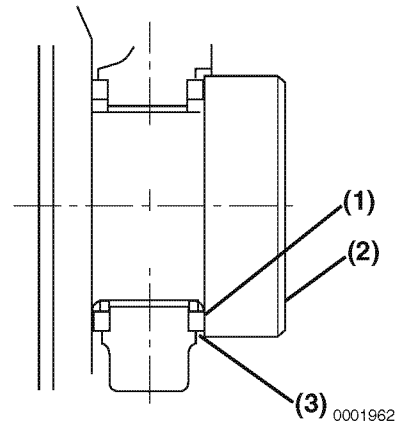

Figure 6-106
- **Method B:** Use a feeler gauge to measure the clearance (**Figure 6-106, (3)**) between the thrust bearing (**Figure 6-106, (1)**) and crankshaft (**Figure 6-106, (2)**). Record the measurement. *See Thrust Bearing on page 6-13 for the service limit.*